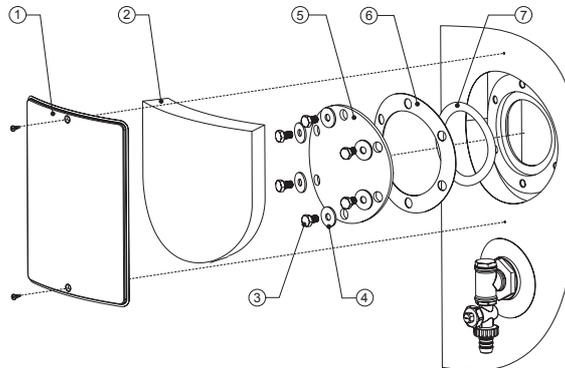
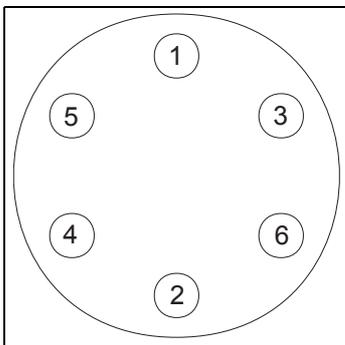

Figure 9.1 Cleaning opening
Figure 9.2 Bolt tightening sequence
To guarantee a good, watertight seal around the cleaning opening, the gasket, O-ring ⑦, spring washers, bolts and if necessary, the lid ⑧ should be replaced with new parts before reassembly. See Figure 9.1. A special set is obtainable from Hamworthy for this purpose.
1. Remove the cover plate ❶ on the outer jacket. See Figure 9.1.
2. Carefully remove the insulation ❷ and set it to one side. This will be needed again later.
7. Close the cleaning opening. To avoid damage to the tank, the bolts that fasten the lid should be tightened with a torque no greater than 50 Nm. Use suitable tools for this. To properly seal the cleaning opening, we recommend tightening the bolts in the sequence shown in Figure 9.2.